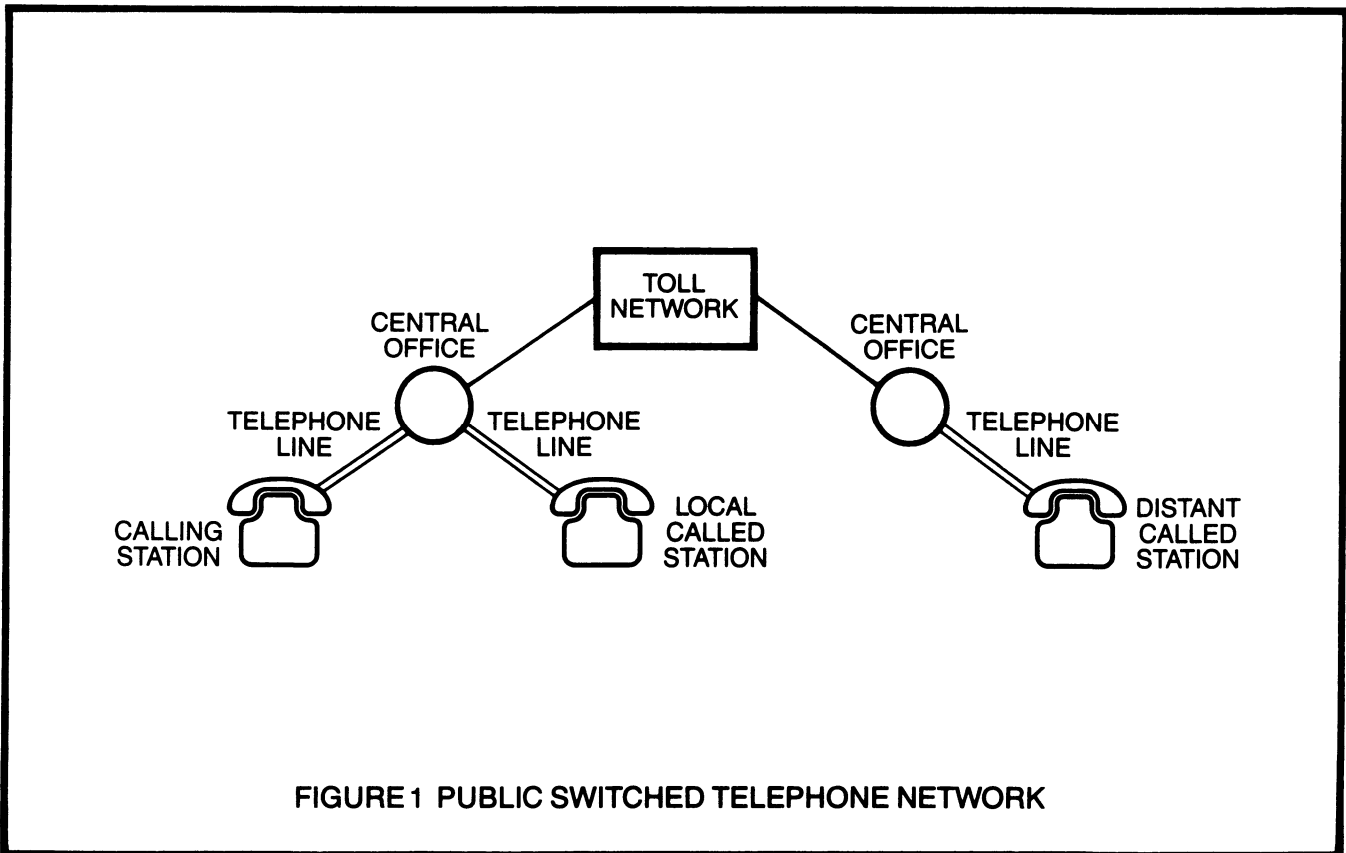

FIGURE 1 PUBLIC SWITCHED TELEPHONE NETWORK
The principal elements of the PSTN are shown in block diagram form in Figure 1. The telephone line is a wire loop which connects each station to a local switching center called a “central office” (CO). The called and calling stations may be connected to the same CO, or they may be connected to different CO’s linked by intermediate switching centers. Two types of station instruments are in common use today: pulse-dialing (rotary) telephones and tone-dialing telephones. Pulse-dialing telephones transmit digits as serial makes (connections) and breaks (disconnections) of the telephone line, while tone-dialing telephones generate pairs of tones called Dual-Tone Multifrequency (DTMF) tones. DTMF dialing is the newer system and is usually preferred, for reasons which will be explained later in this guide.